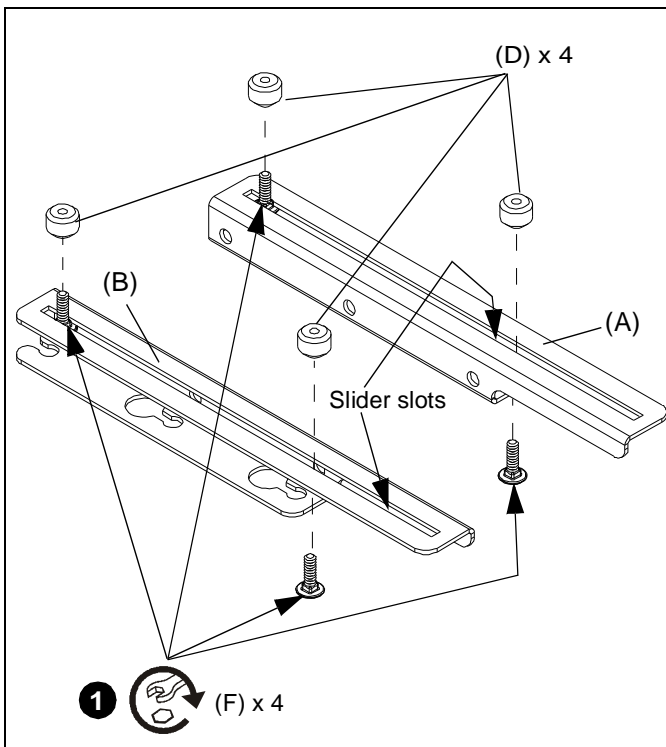

Figure 1
1. Loosely install four 10-24 thumb nuts (D) with four 10-24 x 5/8" carriage bolts (F) through slider slots on LSB brackets (A) and (B). Do not tighten. (See Figure 1)